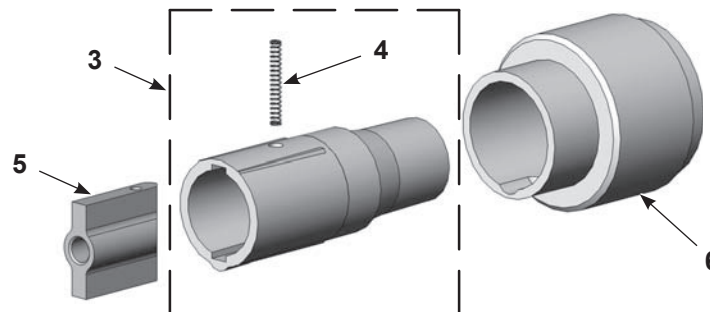

Figure 8-3 SD Electrode Support Assembly
C. Refer to Figure 8-3 and parts list for repair parts for the optional SD Electrode Support Assembly kit.
See Figure 8-3.